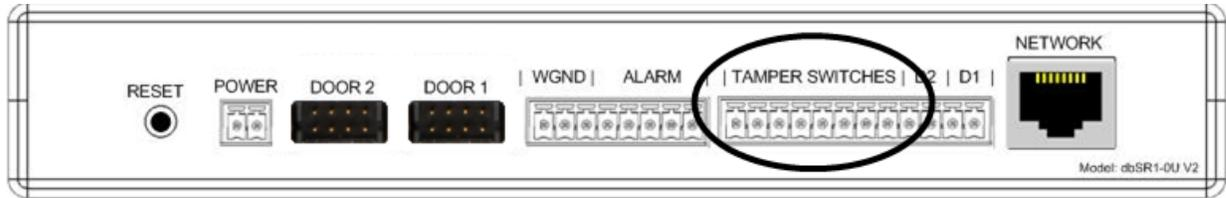

Figure 5a
- Pins 1 thru 8 are used for the Tamper Switches, as show in Figures 5a and 5b.